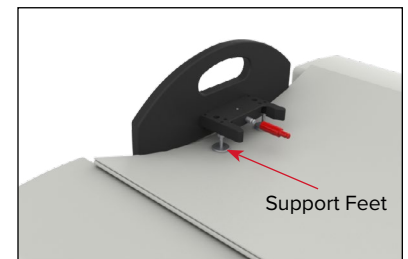

Fig. 7
- Attach the red Alignment Pin to the Foot End Pin Block (Fig. 7).
- Adjust support feet on the Foot End Pin Assembly Mounting Block to contact the table (Fig. 7).